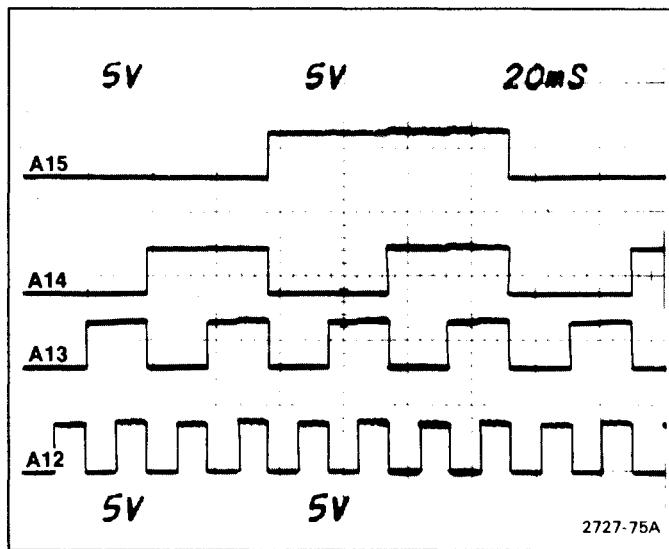

Figure 6-27. A15 through A12 in microcomputer test mode.
**Microcomputer Bus** — As the microcomputer cycles through its address space, it toggles the address lines. The MSB, A15, has a period of approximately 1540 ms. Each line, A14 through A0, has a period half that of the previous line. Thus, the LSB A0 has a period of approximately 4.7  $\mu$ s. High-order lines A15 through A12 are shown in Figure 6-27. Ignore the narrow pulses that may be evident during the low portion of each cycle.